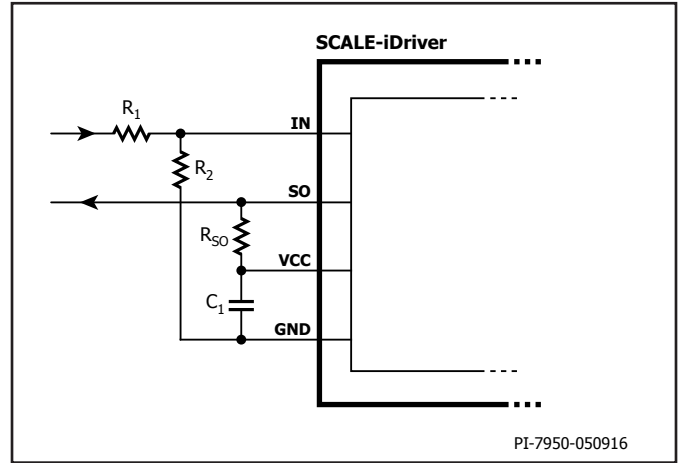
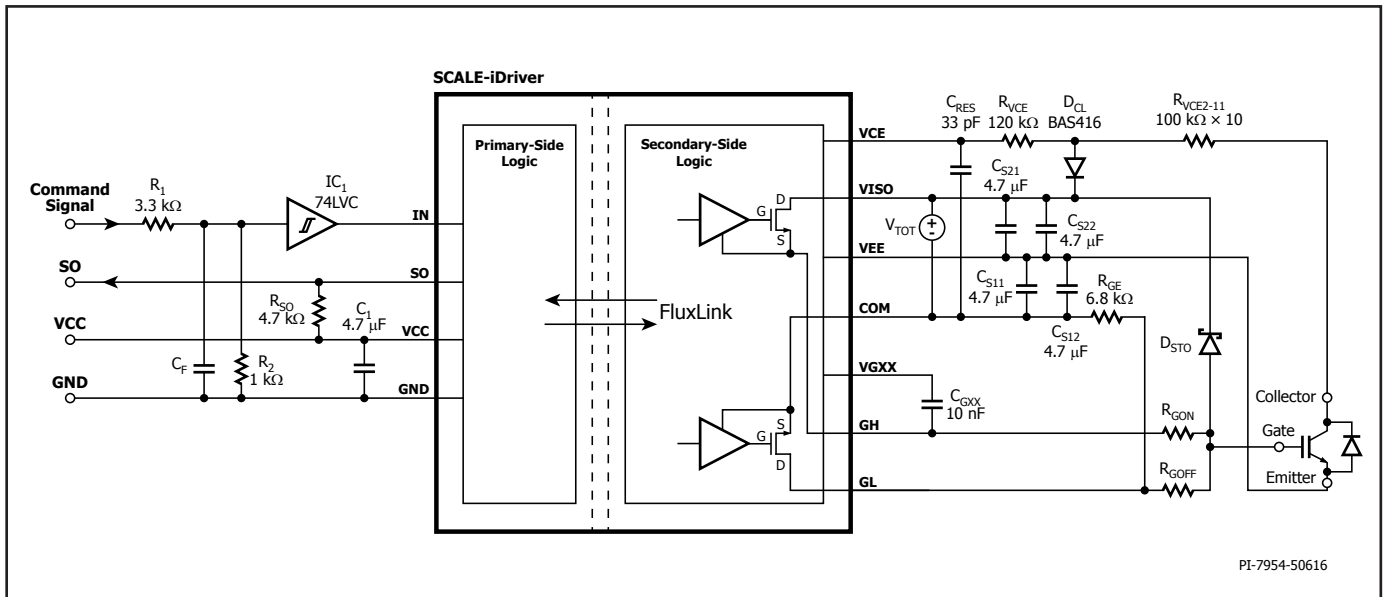

Figure 5. Increased Threshold Voltages V_{IN+LT} and V_{IN+HT} For $R_1 = 3.3 \text{ k}\Omega$ and $R_2 = 1 \text{ k}\Omega$ the IN Logic Level is 15 V.
Figure 13. SCALE-iDriver Application Example using a Resistor Chain for Desaturation Detection.
The input (IN) and output (SO) logic is designed to work directly with micro-controllers using 5 V CMOS logic. If the physical distance between the controller and the SCALE-iDriver is large or if a different logic level is required the resistive divider in Figure 5, or Schmitt-trigger ICs (Figures 13 and 14) can be used. Both solutions adjust the logic level as necessary and will also improve the driver's noise immunity.
Figures 13 and 14 show the schematic and typical components used for a SCALE-iDriver design. In both cases the primary-side supply voltage (V_{VCC}) is connected between VCC and GND pins and supported through a blocking ceramic capacitor C_1 (4.7 μ F typically). If the command signal voltage level is higher than the rated IN pin voltage (in this case 15 V) a resistive voltage divider should be used. Additional capacitor C_F and Schmitt trigger IC_1 can be used to provide input signal filtering. The SO output has 5 V logic and the R_{SO} is selected so that it does not exceed absolute maximum rated I_{SO} current.
Figure 13 shows how switch desaturation can be measured using resistors $R_{VCE2} - R_{VCE11}$. In this example all the resistors have a value of 100 kΩ and 1206 size. The total resistance is 1 MΩ. The resistors should be chosen to limit current to between 0.6 mA to 0.8 mA at maximum DC-link voltage. The sum of $R_{VCE2} - R_{VCE11}$ should be approximately 1 MΩ for 1200 V semiconductors and 500 kΩ for 600 V semiconductors. In each case the resistor string must be selected so as to provide (at least) functional insulation between collector of the semiconductor and SCALE-iDriver. The low leakage diode D_{CL} keeps the short-circuit duration constant over a wide DC-link voltage range.
Figure 15 shows the recommended PCB layout and corresponds to the schematic in Figure 13. The 10 1206 package resistors are replaced by 2 470 kΩ MiniMelf resistors. The PCB is a two layer design. It is important to ensure that PCB traces do not cover the area below the desaturation resistors or diodes D_{VCE1} and D_{VCE2} . This is a critical design requirement to avoid coupling capacitance with the SCALE-iDriver's VCE pin and isolation issues within the PCB.